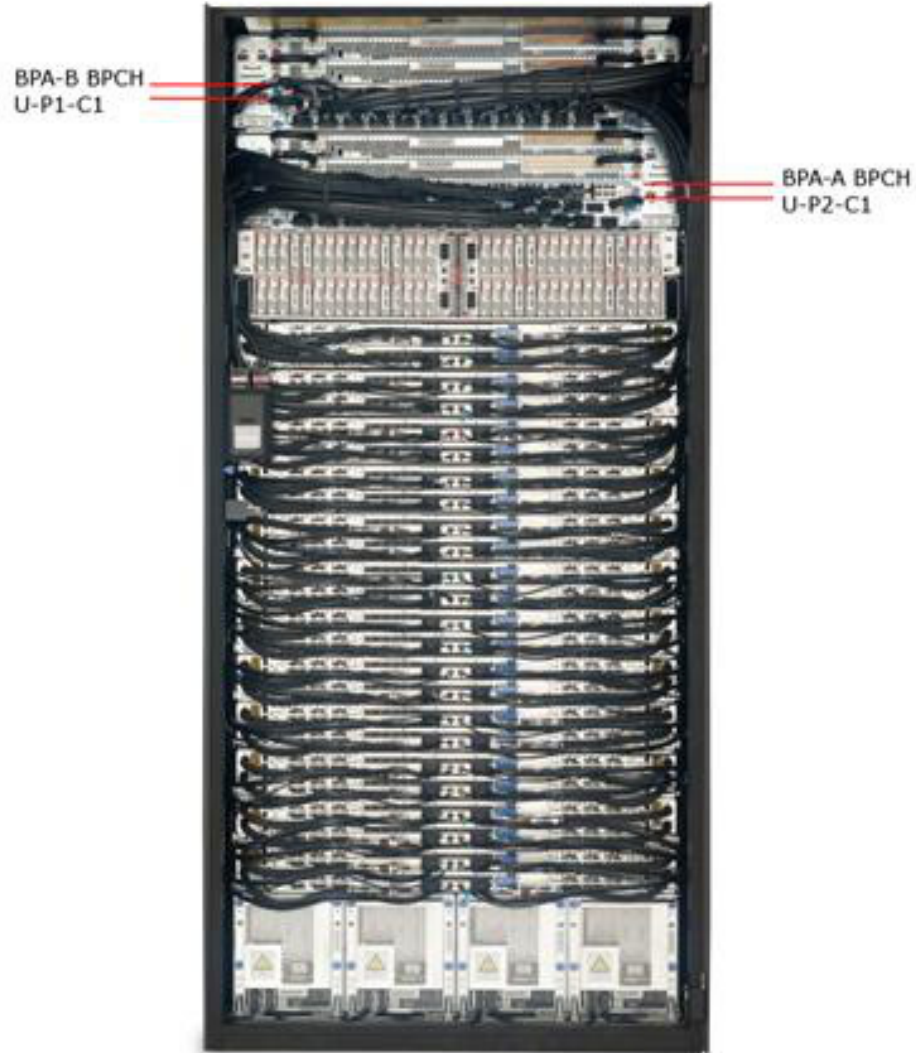

Figure 7 BPCH Locations
12. Locate both BPCHs (see Figure 7 below) and the Cross-Power Cable plugged into position T5 on each BPCH (see Figure 9 below).